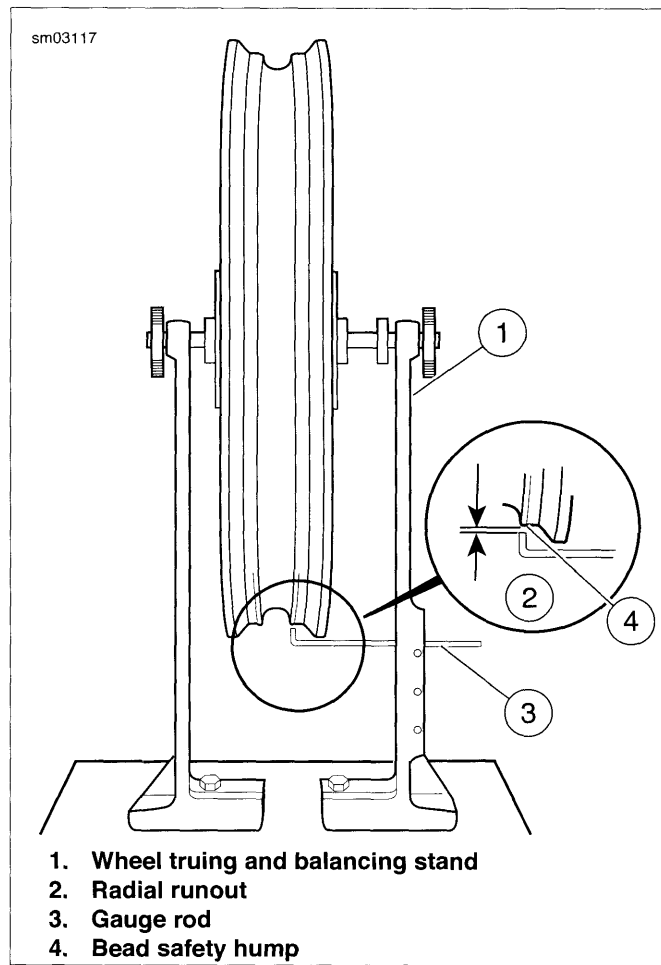

Figure 2-40. Checking Radial Runout
- See Figure 2-40. With the wheel mounted in WHEEL TRUING STAND (Part No. HD-99500-80), adjust the truing stand gauge (3) near to the rim's tire bead safety hump (4). If using a dial indicator, place the tip on the safety bead hump.